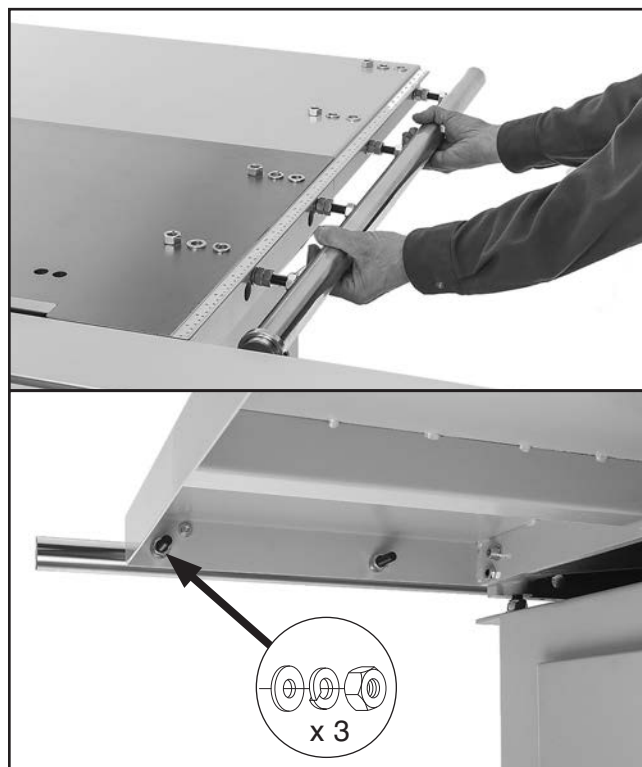

Figure 27. Installing the rip fence rail.
17. Insert studs into tables as shown in **Figure 27**, and attach with hardware removed in **Step 16**.